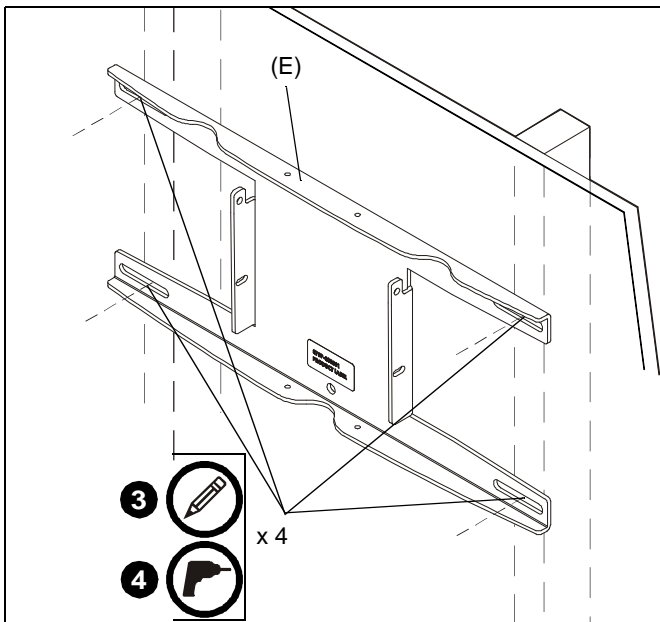

Figure 4
2. Line up four holes on wall plate (E) with center of studs at desired mounting location. (See Figure 4)
3. Using wall plate as a template, mark four holes at the four holes in wall plate. (See Figure 4)
4. Drill four 1/2" holes at marked locations on wall. (See Figure 4)